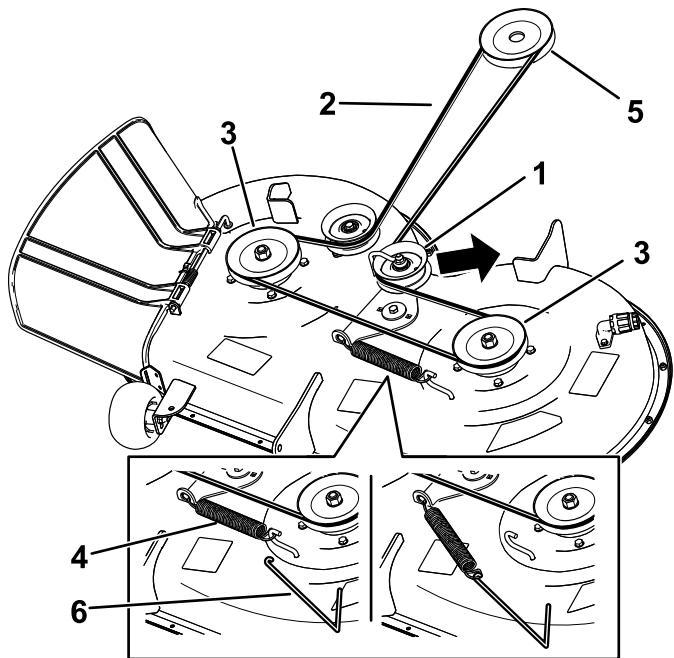

Figure 55
2. Screw (3)
6. Using a spring-removal tool (Toro Part No. 92-5771), remove the idler spring from the deck hook to remove tension on the idler pulley, and roll the belt off the pulleys (Figure 55).
7. Route the new belt around the engine pulley and mower pulleys (Figure 55).
8. Using a spring-removal tool (Toro Part No. 92-5771), install the idler spring over the deck hook and place tension on the idler pulley and the mower belt (Figure 55).